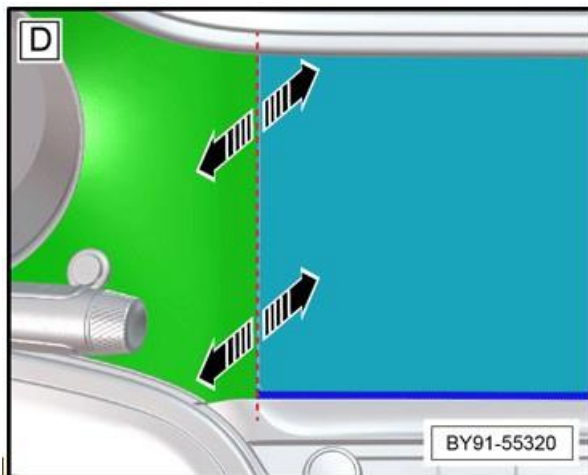

Figure 12
Measure the profile (D) between the "BRD" veneer face fascia panel and the passenger and drivers side fascia panels. See Figure 12